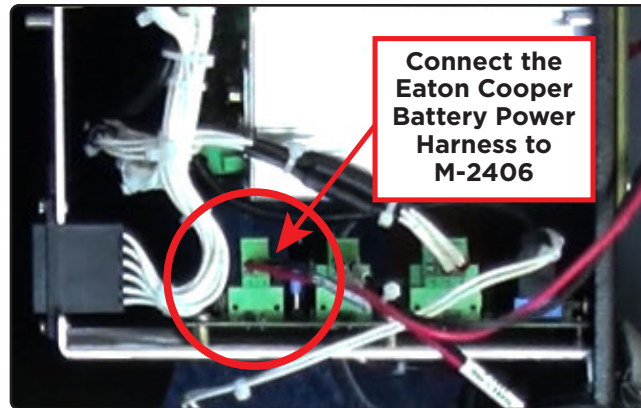

Figure 17 M-2035 Module - Battery Power Input
1. The saved Eaton Cooper Battery Power harness must be installed onto the M-2406 Adapter Chassis prior to installation. Place the M-2406 Adapter Chassis face down to allow access to the M-2035 Module. Connect the 2-pin Phoenix connector to the battery power input plug on the M-2035 Module (Figure 17).